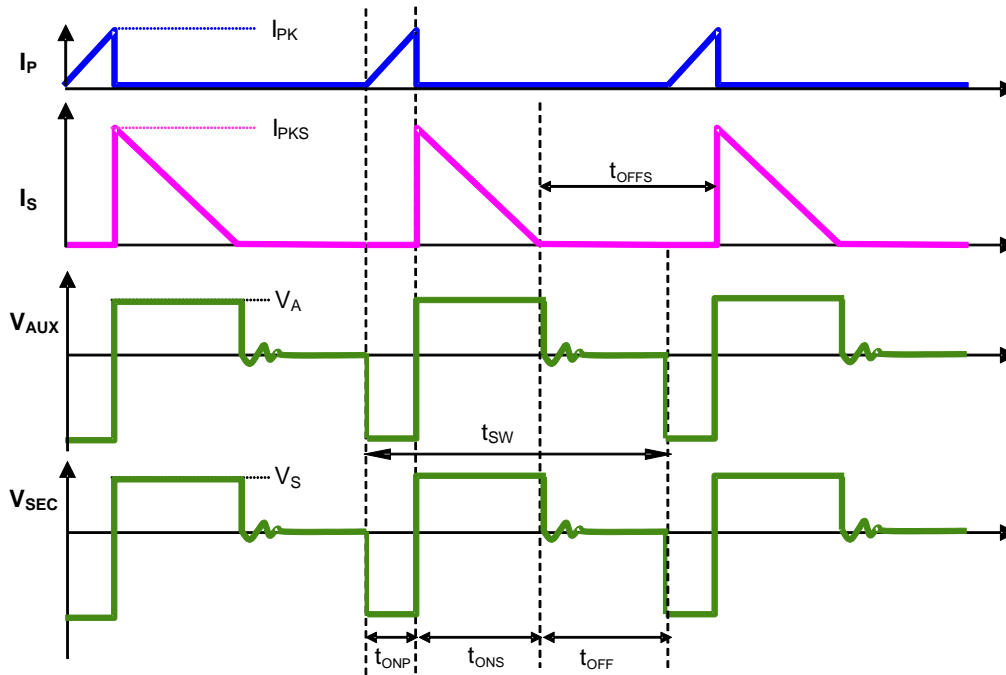

Figure 2. The Operation Waveform of Flyback PSR System
Figure 2 shows the typical waveforms which demonstrate the basic operating principle of APS39903 application. And the parameters are defined as following.
As illustrated in Figure 2, when the current  $i_p(t)$  rises up to  $I_{PK}$ , the switch Q1 turns off. The constant peak current is given by:
The APS39903 can work in constant-current (CC) mode. Figure 2 shows the secondary current waveforms.